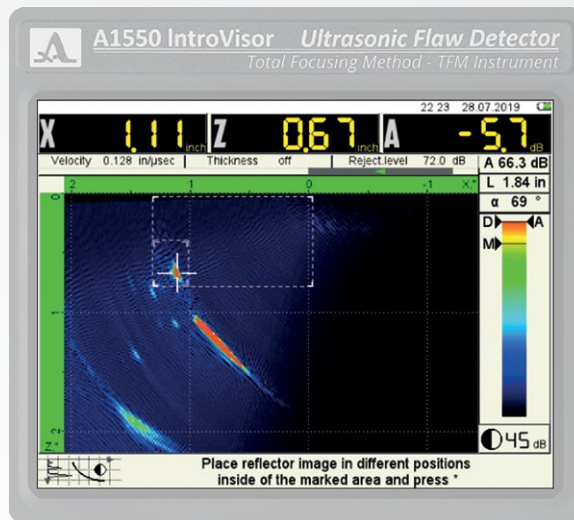

FIGURE 56
7) Press the SETUP key again and highlight the Flaw Evaluating parameter SAC and press enter. The following screen will appear in Figure 56.